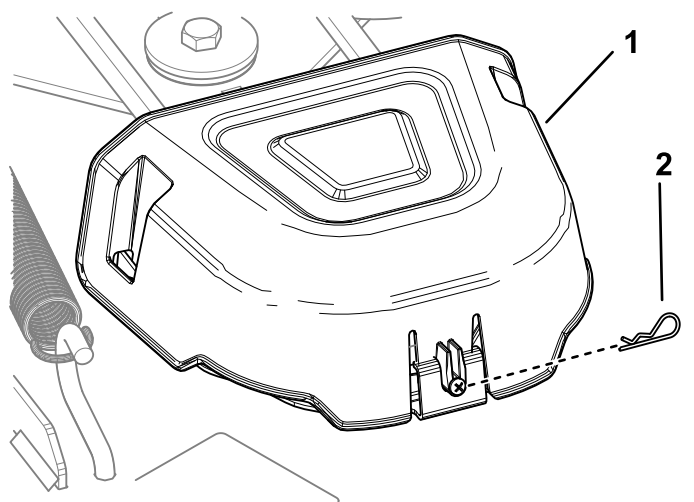

Figure 50
4. Remove the hairpin cotter and push in the tab on the cover to remove the pulley covers (Figure 50).